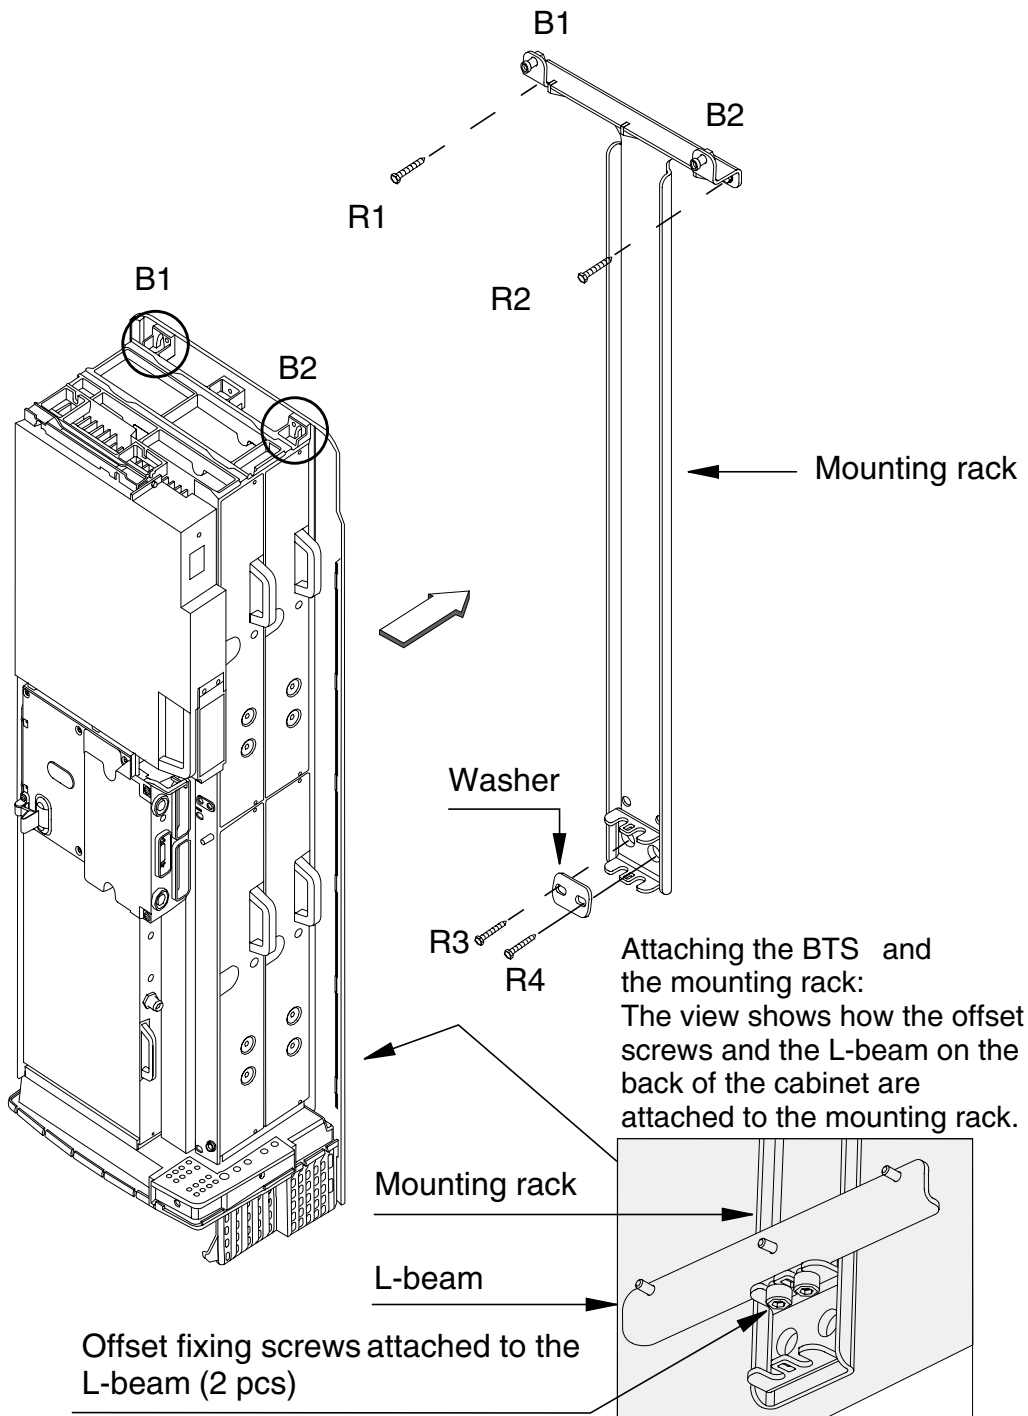

Figure 7. Wall mounting
3. The mounting rack is attached to the back of the BTS for transportation. It must be removed before continuing with installation. The mounting rack can be seen in detail in Figure 7. Loosen the offset screws on the bottom and the top of the mounting rack: on the L-beam and screws B1 and B2. Do not remove the screws completely.
5. Position the mounting rack in the correct location on the wall and attach it with screws through holes R1 and R2 (see Figure 7). Use a spirit level to set the mounting rack straight (adjustment is possible due to the oval shape of holes R1 and R2). Tighten the screws when the rack is level.
6. Drill screw holes for the lower anchor screws through the holes marked R3 and R4 in Figure 7. Insert the anchor plugs (or appropriate counterparts) into the wall.
1. Hang the BTS on the upper fixing screws, B1 and B2 in Figure 7. Do not tighten them yet!
2. Position the two offset screws which are attached to the L-beam (on the back of the cabinet) into the offset screw slots on the lower part of the mounting rack, as shown in the inset illustration in Figure 7.
3. Tighten the upper BTS fixing screws (B1 and B2 in Figure 7) using a torque driver and a 4 mm Allen bit with a shaft of at least 60 mm in length. Tighten the screws to 5.5 Nm (4.06 lb ft).
4. Tighten the offset screws on the L-beam to 12 Nm (8.85 lb ft) using a torque socket spanner/wrench and a 6 mm Allen bit with an 80 mm extension. See the inset illustration in Figure 7, which shows the rear view of the cabinet.
2. Position the two offset screws which are attached to the L-beam (on the back of the cabinet) into the offset screw slots in the lower part of the mounting rack, as shown in the inset illustration in Figure 7.